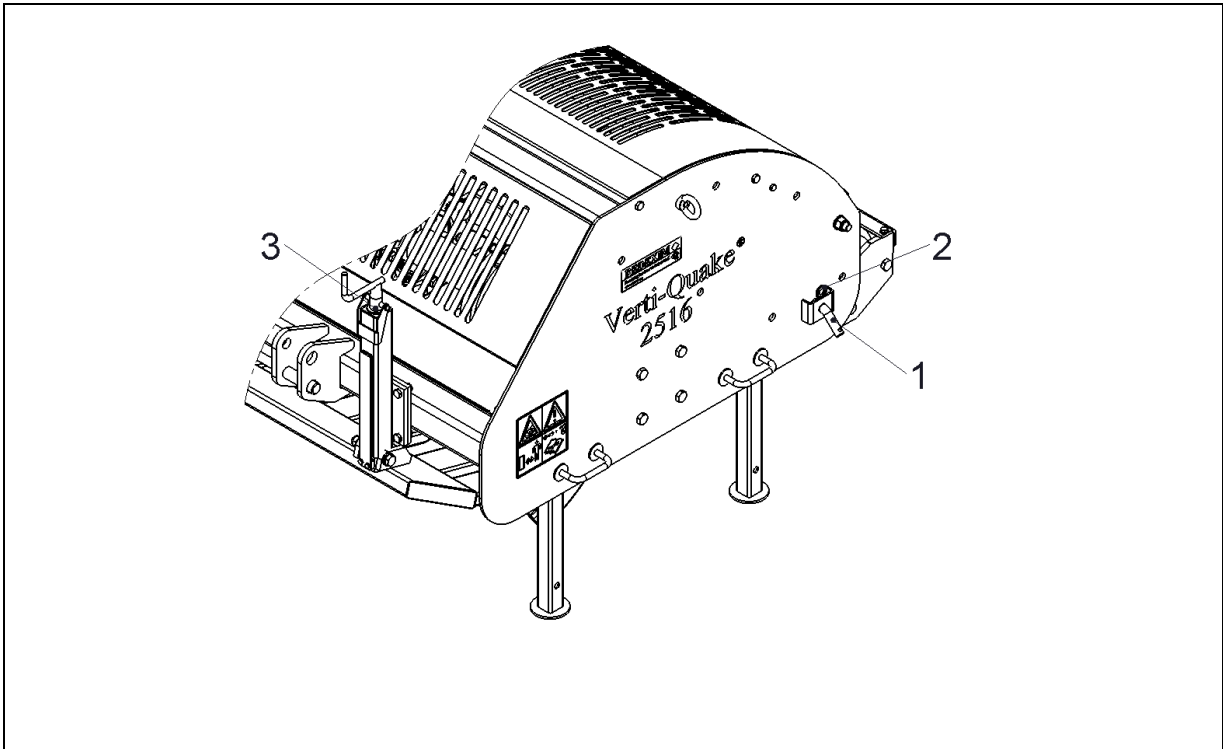

Fig. 10
6.0 ADJUSTING THE OPERATING DEPTH (Fig. 10)